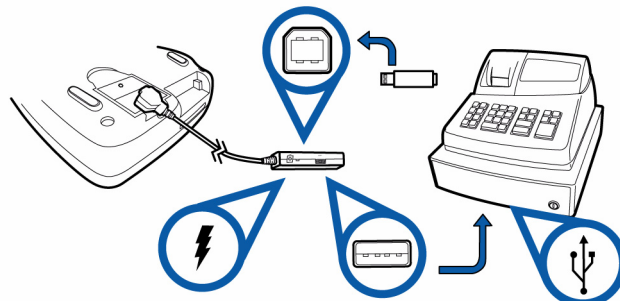

Figure 14 Vx810 Connected to a USB with Download Support
- 1 Position the smart card with the gold contacts facing upward (see Figure 14).